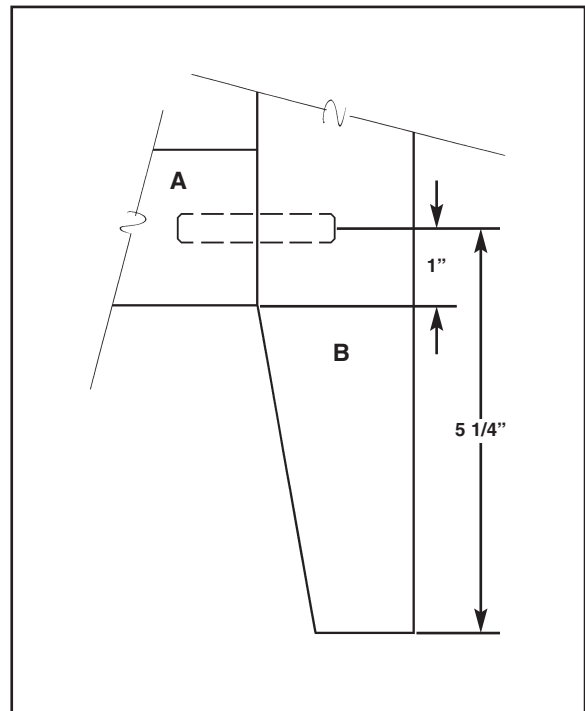

Figure 2
2. Assemble face frame boards (A) and (B) using glue and 3/8" dowels. Check for squareness. Refer to Figure 2 and Isometric.